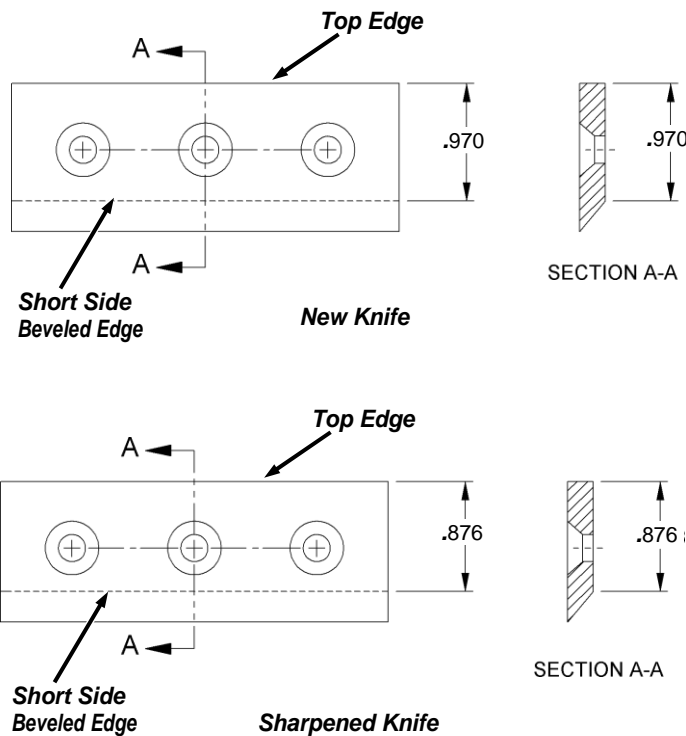

Figure 38
- ❑ A new Chipper Knife has .970" measurement between the short side bevel edge and the Knife Top Edge (**Figure 38 "New Knife"**).
- ❑ Once this measurement is below .876" (see **Figure 38 "Sharpened Knife"**), or if you are unable to remove dents or gouges with these guidelines, replace the Knife.